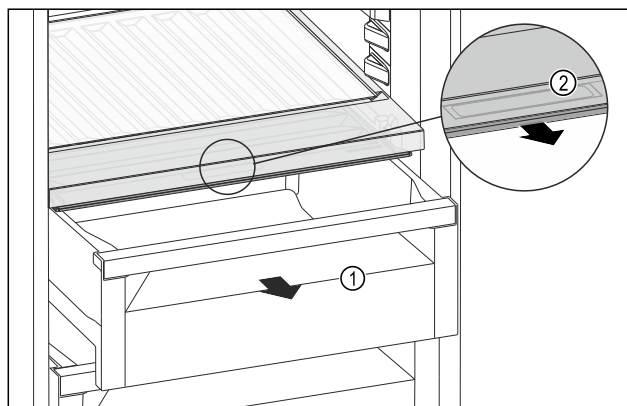

Fig. 262
- Pull out the drawer Fig. 262 (1).
- Grasp the recessed grip Fig. 262 (2) on the compartment lid and pull the compartment lid forwards at the same time.